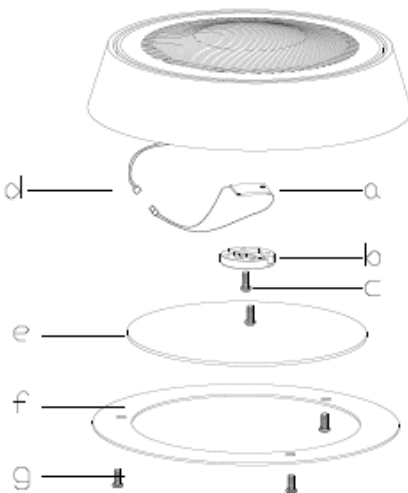

Fig 2
7. The LED module can be replaced by a qualified electrician without cutting of wire and without damage to any decorative element to which the fixture is attached. Refer to installation steps for more details.(Fig 2)